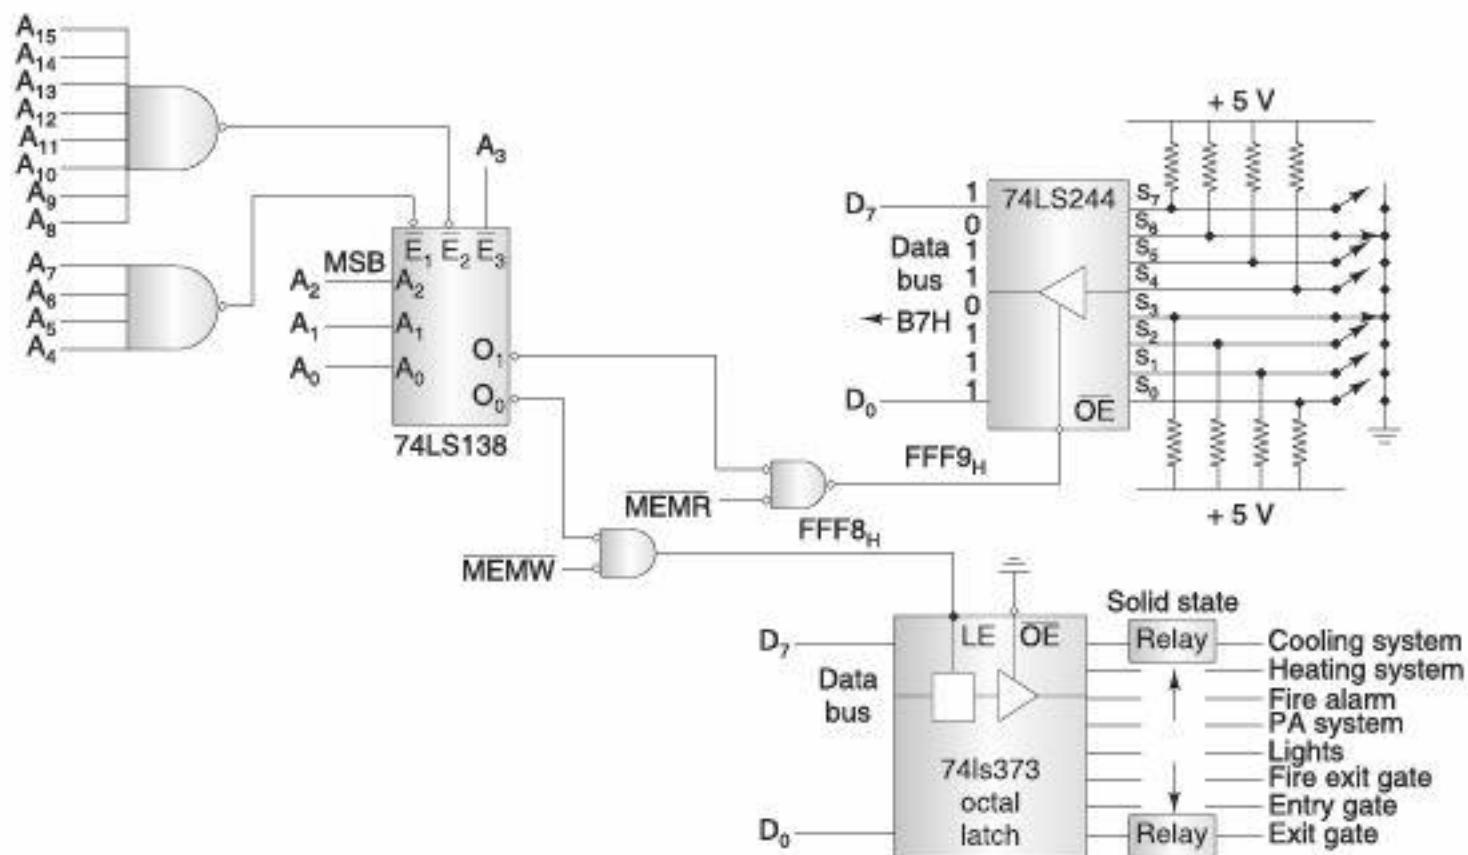

Fig. 3.16 Memory Mapped I/O Interfacing
The 74LS373 is a latch followed by a tri-state buffer, as shown in Figure 3.16. The latch buffer is controlled independently by the Latch Enable (LE) and Output Enable ( $\overline{OE}$ ). When LE is high, the data enter the latch, and when LE goes low, data are latched. The latched data
are available on the output lines of the 74LS373 if the buffer is enabled by  $\overline{OE}$  (active low). If  $\overline{OE}$  is high, the output lines go into the high impedance state. Figure 3.16 shows that the  $\overline{OE}$  is connected to the ground; thus, the latched data will keep the relays on/off according to the bit pattern. The LE is connected to the device select pulse, which is asserted when the output  $O_0$  of the decoder and the control signal  $\overline{MEMW}$  go low.
The DIP switches are interfaced with the 8085 using the tri-state buffer 74LS244. The switches are tied high, and they are turned on by grounding, as shown in Figure 3.16. The switch positions can be read by enabling the signal  $\overline{OE}$ , which is asserted when the output  $O_1$  of the decoder and the control signal  $\overline{MEMR}$  go low. Therefore to read the input port the port address should be as follows: